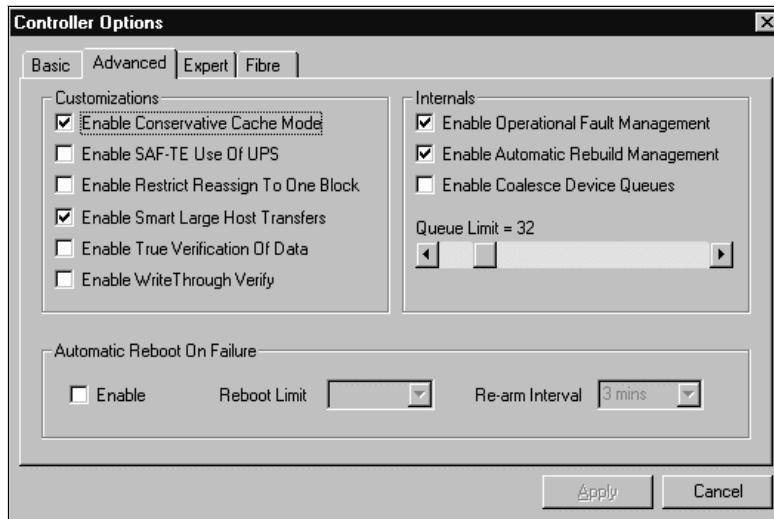

Figure 5: SAM Advanced Controller Options Dialog Box (simplex)
► Open the *Advanced* dialog box and set the parameters as shown in figure 5.